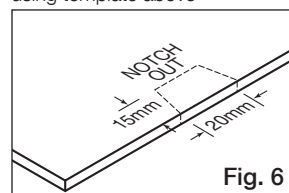
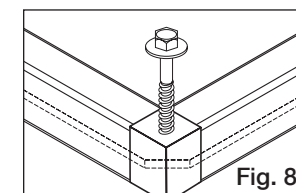

Fig. 6
Fig. 8
- Cut away an area 15 x 20mm on the edge of the screen to create clearance for each mounting screw (Fig. 6). This is not required if screws can be positioned in the gaps of the lattice.
- It is possible to attach the framed panel using screws through the plastic corners and/or C-channel (as in Fig. 8, 9). Remember to cut the corners and edges of the screen to allow for thermal expansion (see Fig. 6, 7). Do not crush the corners by overtightening screws.
- Cut off corners and notch edges as required to create clearance for screws (Fig. 6, 7). This is not required if the screws can be positioned in the gaps of the lattice.
- Alternatively, drill holes straight through the corners and/or C-channels and attach directly to the support structure behind using screws 50mm or longer (Fig. 8, 9) ensuring that there is ample clearance for each screw (Fig. 6, 7). Do not crush the corners and channel by overtightening the screws.